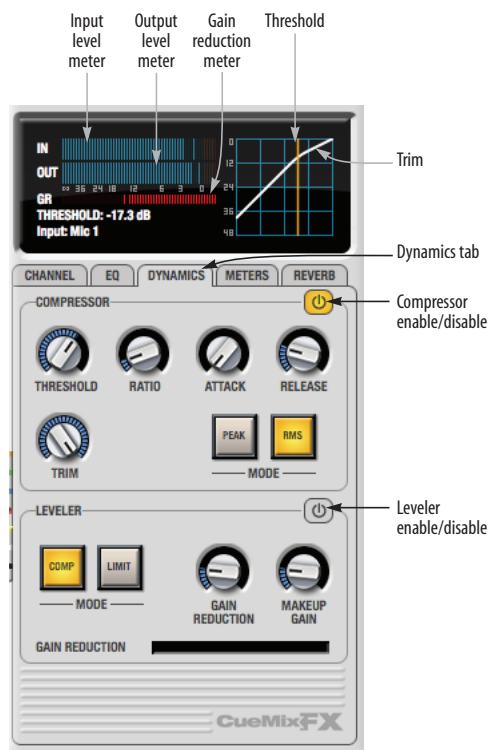

Figure 10-21: The Dynamics tab.
The Dynamics tab (Figure 10-21) displays the Dynamics processing settings for the input or output channel that currently has the focus. Click any focus button in the Inputs or Outputs tab to view the Dynamics tab settings for the channel.
Each input and output channel has a global *Dynamics enable/disable* button (Figure 10-3 and Figure 10-6). This button enables or disables all dynamics processing for the channel. In addition, the Dynamics tab has two different dynamics processors, the Compressor and Leveler, which can be individually enabled or disabled (Figure 10-21) for the channel.
The *Compressor* (Figure 10-21) lowers the level of the input when it is above the threshold. The amount of attenuation is determined by the *Ratio* and the input level. If the input is 6 dB above the *Threshold* and the Ratio is 3:1, then the output will be 2 dB above the Threshold. When the input level goes above the threshold, the attenuation is added gradually to reduce distortion. The rate at which the attenuation is added is determined by the *Attack* parameter. Likewise, when the input level falls below the Threshold, the attenuation is removed gradually. The rate at which the attenuation is removed is determined by the *Release* parameter. Long Release times may cause the audio to drop out briefly when a soft passage follows a loud passage. Short Release times may cause the attenuation to pump when the average input level quickly fluctuates above and below the Threshold.
The Threshold can be adjusted by turning the Threshold knob or by dragging the Threshold line directly in the compressor graph (Figure 10-21).
The *Input Level* meter (Figure 10-21) shows the level of the input signal before it enters the compressor. It shows either the peak level or the RMS level, depending on which mode is currently chosen.
The Gain reduction (GR) level meter (Figure 10-21) displays the current amount of attenuation applied by the compressor.
The *Output Level* meter (Figure 10-21) displays the peaks of the output signal. Trim is applied before the Output Level meter.
The Leveler™ (Figure 10-21) provides an accurate model of the legendary Teletronix™ LA-2A® optical compressor, known for its unique and highly sought-after Automatic Gain Control (AGC) characteristics. The 828mk3 Leveler faithfully models the LA-2A using the on-board DSP with 32-bit floating point precision.
The *Comp* and *Limit* buttons (Figure 10-21) model the original LA-2A Limit/Compress mode switch. The effect is very subtle, with the Limit option behaving only slightly more like a limiter than a compressor. The switch increases the level of the input to the AGC model and runs the attenuator at a slightly lower level. The Leveler then responds more strongly to transients, but otherwise still behaves like a leveling amplifier.
Gain Reduction (Figure 10-21) sets the strength of the signal sent to the AGC model.
Makeup gain (Figure 10-21) amplifies the output signal to make up for gain reduction.